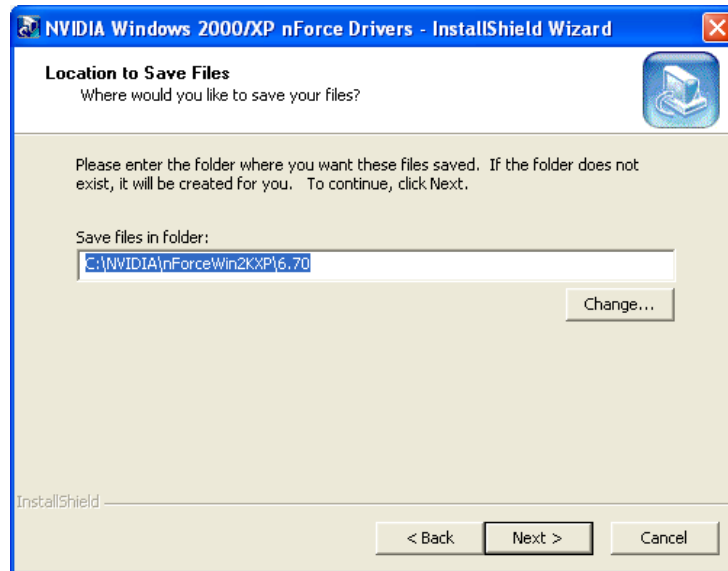

Figure 8-8: Chipset Driver Folder Selection
Step 10: The folder selection screen in **Figure 8-8** appears.